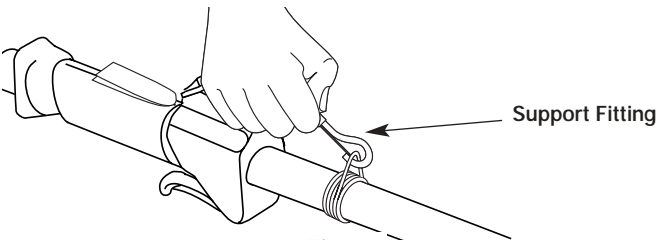

Fig. 12
3. Put the harness on over head and onto shoulder. Snap it on to the support fitting (Fig. 12).